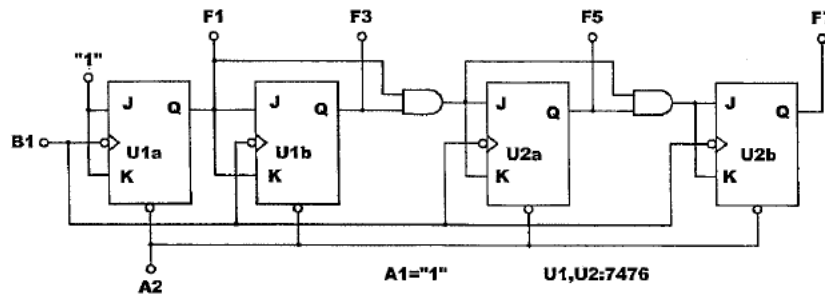

Figure 2.1
- The complete circuit of a binary up counter is shown in **Figure 2.1**. The corresponding truth table is shown in **Table 2.1**.